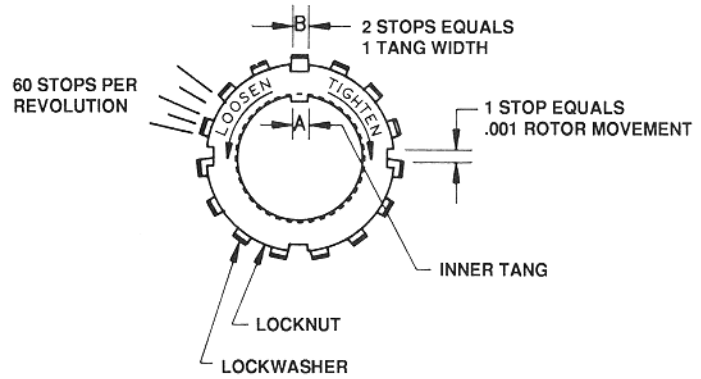

Figure 6 - Locknut Assembly
The purpose of the bearing locknuts and lockwashers is to center and maintain the pump rotor between the discs. Overtightening the locknuts can cause bearing failure or a broken lockwasher tang "A" (see Figure 6). Loose locknuts will allow the rotor to shift against the discs, causing excessive wear.
- e. Back off the nut the width of one lockwasher tang "B" (see Figure 6), or two stops. Secure the locknut by bending the closest aligned lockwasher tang into the groove in the locknut. The pump should now turn freely when rotated by hand.